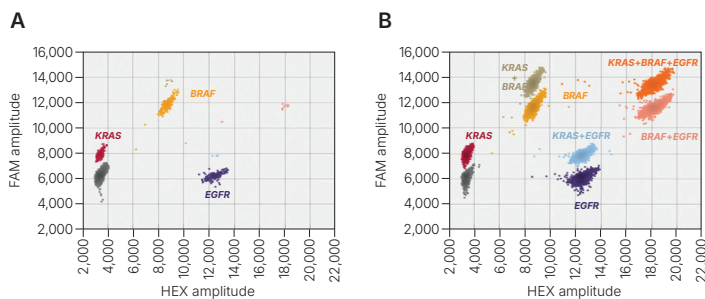

Fig. 28. 2-D plots for one well each of wild-type human genomic DNA. A, 1.3 ng/reaction; B, 53 ng/reaction.
- Wild-type human genomic DNA 2-D plots with an input of 1.3 ng and 53 ng per reaction are shown in Figure 28. Note that higher order clusters (double-positive and triple-positive) may not be seen with low input samples.